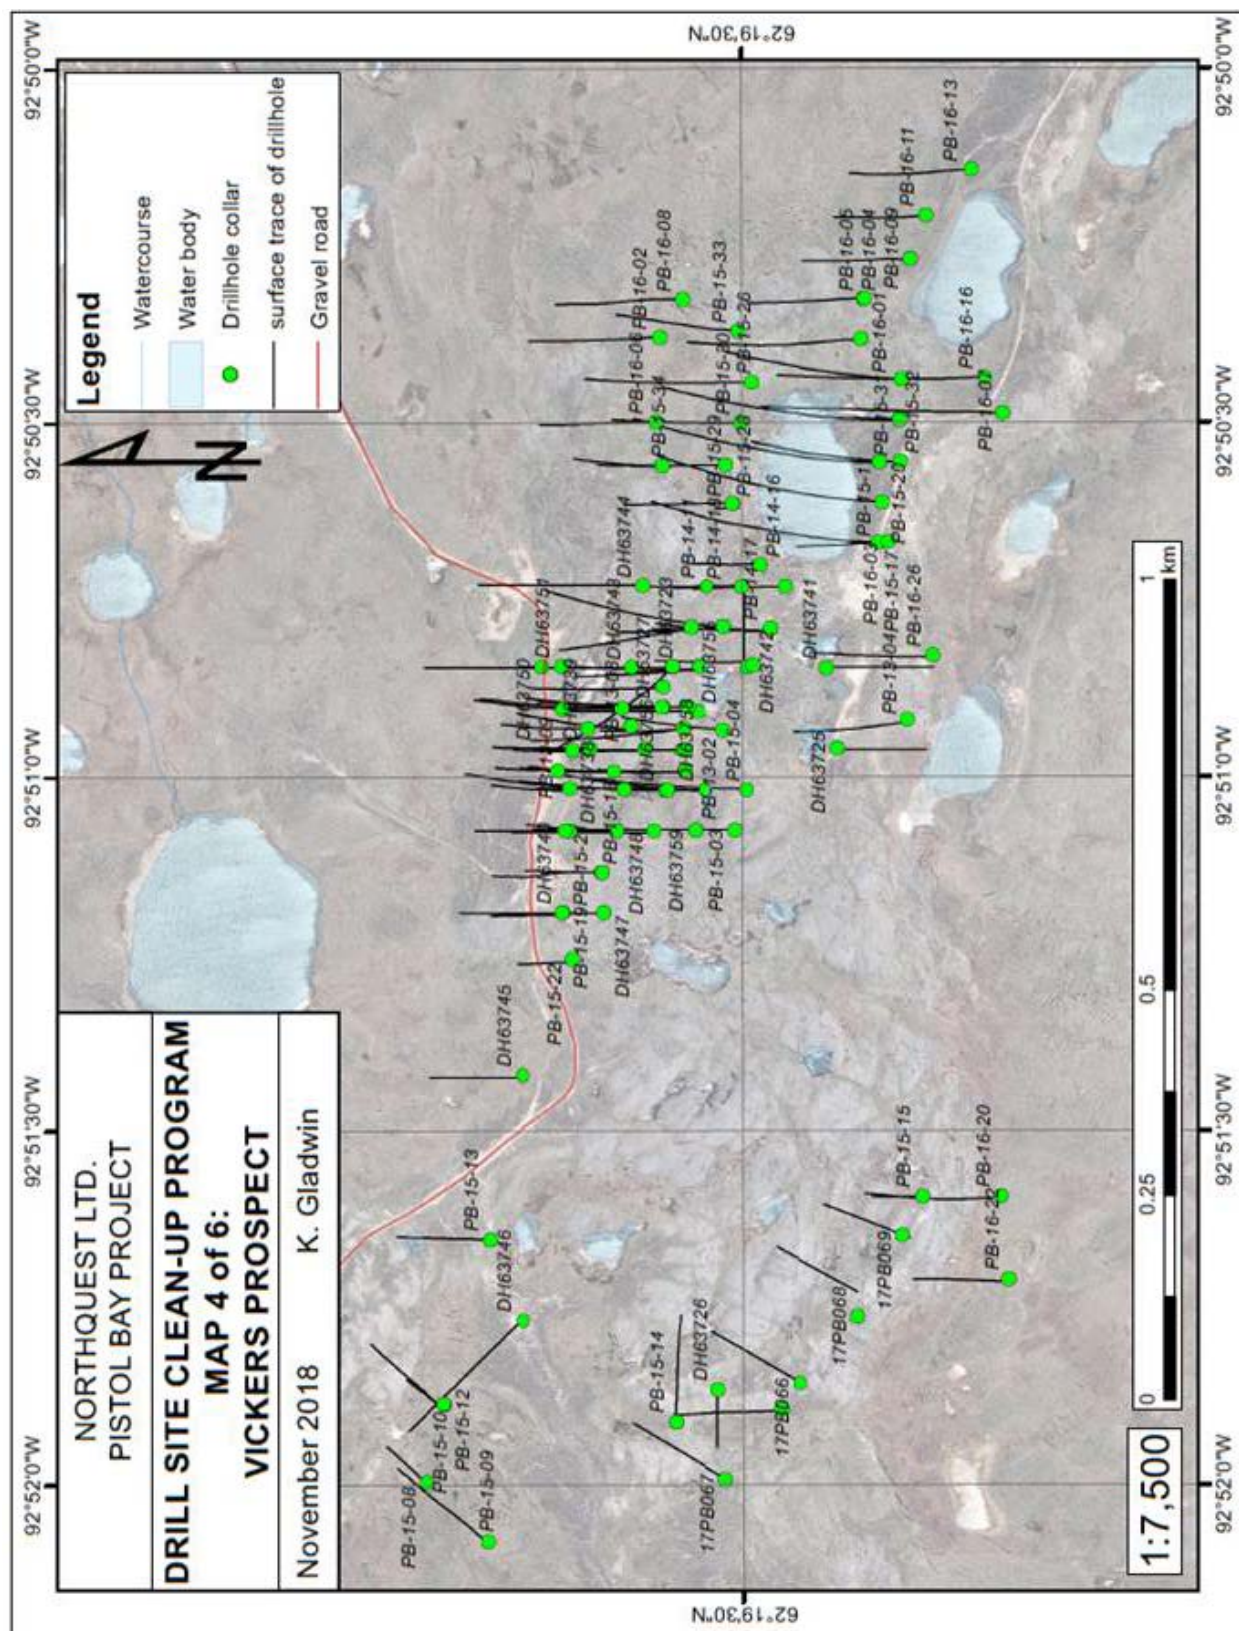

Figure 11. Map illustrating the Vickers Gold Deposit drill sites.
- Figure 11. Map illustrating the Vickers Gold Deposit drill sites.
| • Vickers | Drill holes illustrated on Figure 11 |